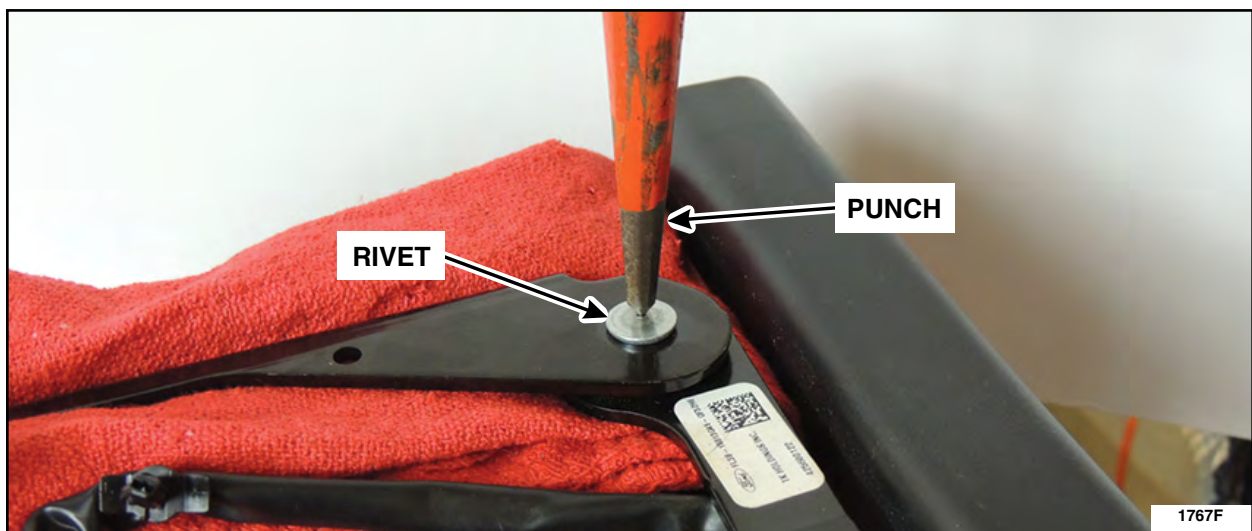

FIGURE 5
4. Use a punch to create a pilot mark in the center of the rivet head. See Figure 5.